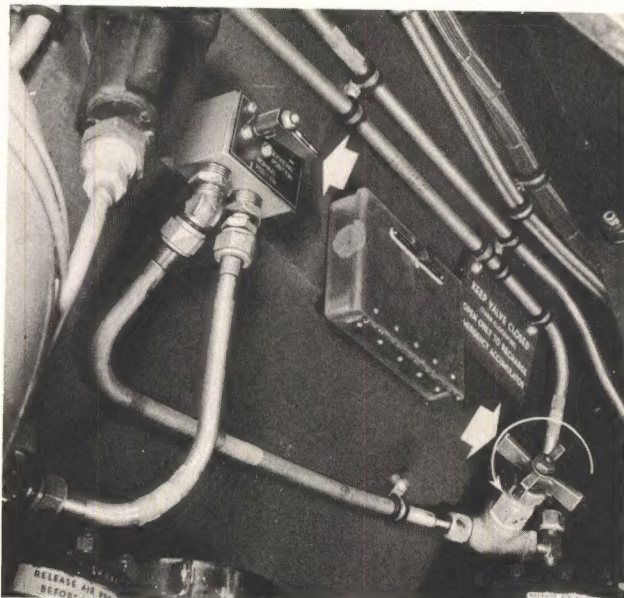

Figure 5 - Servicing Emergency Accumulator
(2) In some airplanes the hydraulic pump is controlled by an "ON-OFF" switch on the pilot's control panel. This switch must be "ON" to maintain pressure automatically.
b. **EMERGENCY BRAKE SYSTEM.** - A spare accumulator and auxiliary metering valves provide emergency brake operation. A red warning lamp on the pilot's instrument panel lights when pressure in the emergency system falls to approximately 700 pounds per square inch. To charge the emergency accumulator, open the manual shut-off valve. If a selective check valve is installed, place it in "SERVICING" position. (These units are located on the right side wall at the rear of the control cabin. See figure 5.) Build up 800 pounds pressure in the system, then return the selective check valve to "NORMAL" position and close the manual shut-off valve.